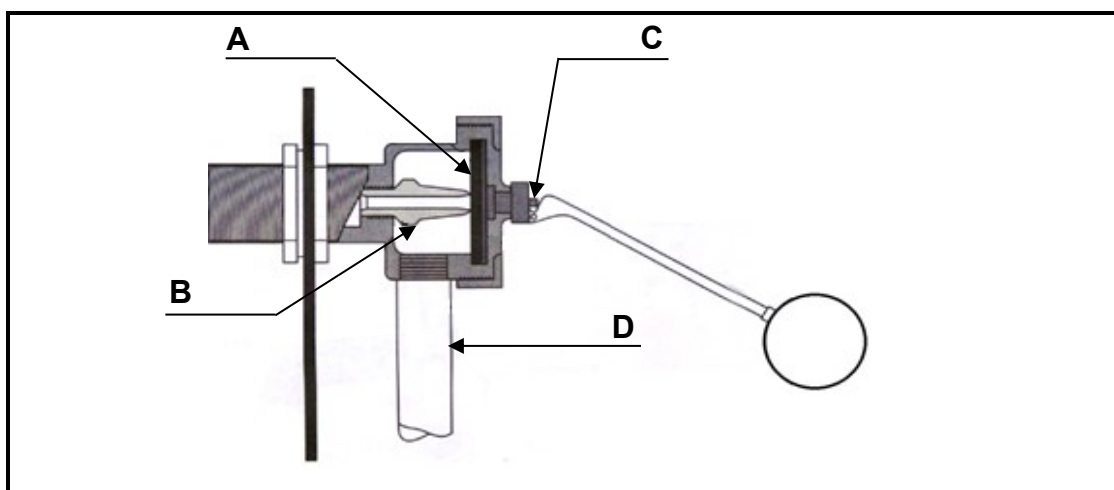

FIGURE 4.4
- 4.4 Answer the following questions with regard to the valve in FIGURE 4.4.